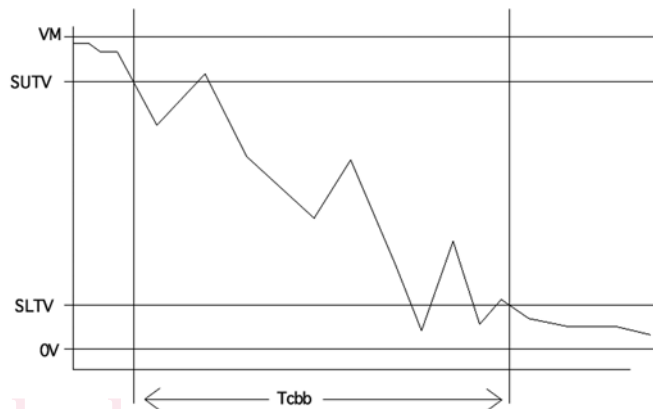

FIG. 1 Contact Bounce on Switch Break
3.1.2 *contact bounce time (break)*,  $T_{CBB}$ —the time period measured from the first instant  $V_M$  is equal to the SUTV until it constantly remains below the SLTV after the last instant it rises above the SUTV. If  $V_M$  does not rise above SUTV during the time interval,  $T_{CBB} = 0$ , (see Fig. 1).
7.3.2 Record  $T_{CBB}$  (see Fig. 1) from oscilloscope display.